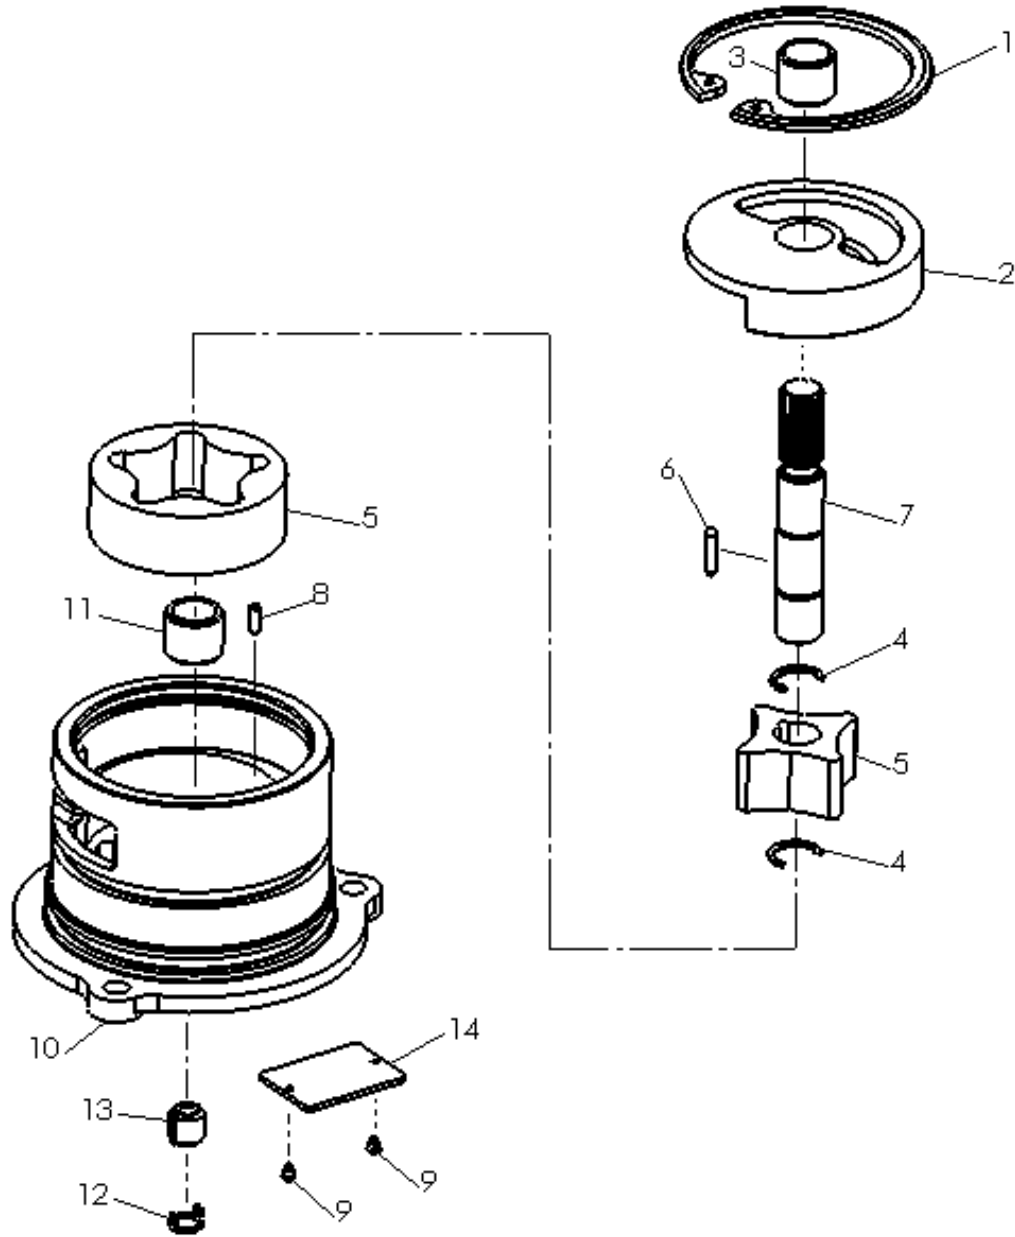

FIGURE 1
2. Discard retainers (4, Figure 1), gerotor assembly (5), key (6), and shaft (7).